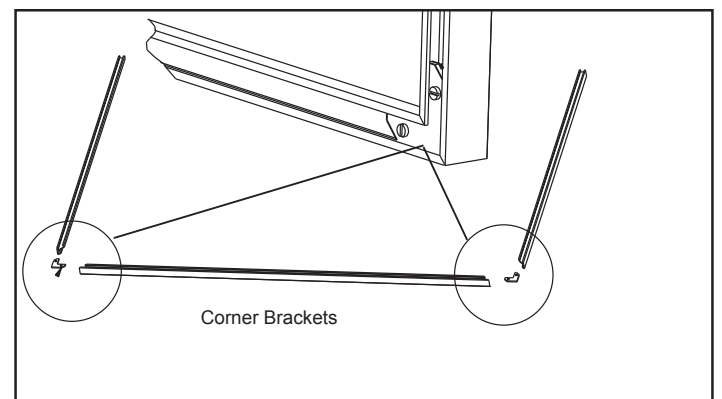

Figure 42.3
4. Using a standard flat screw driver tighten the corner brackets. **Figure 42.3**.